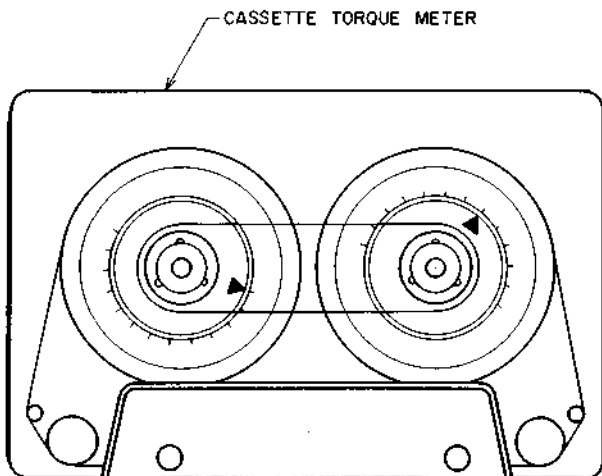

Fig. 5-2
5.2 WINDING TORQUE MEASUREMENT IN EACH MODE (Refer to Fig. 5-2)